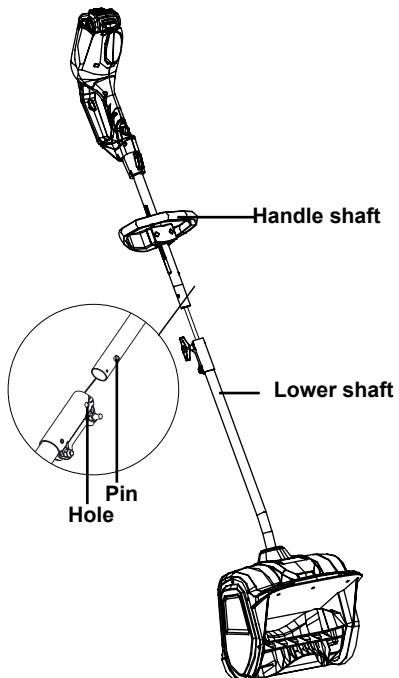

Fig. 2
- Align the pin on the handle shaft and the hole on the lower shaft. (Fig. 2).